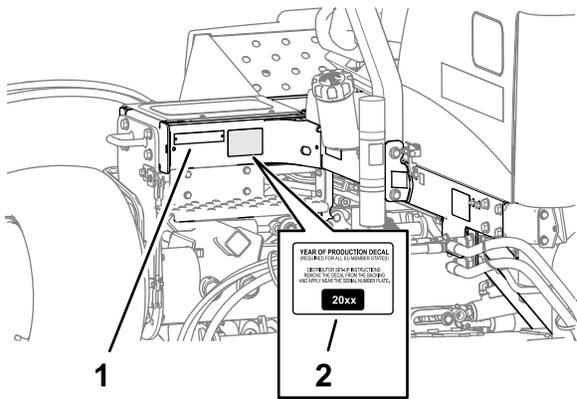

Figure 37
1. Wipe clean the left frame near the model/serial plate with alcohol, and allow the frame to dry (Figure 37).
2. Remove the backing and apply the Year of Production decal to the frame near the serial plate as shown in Figure 37.